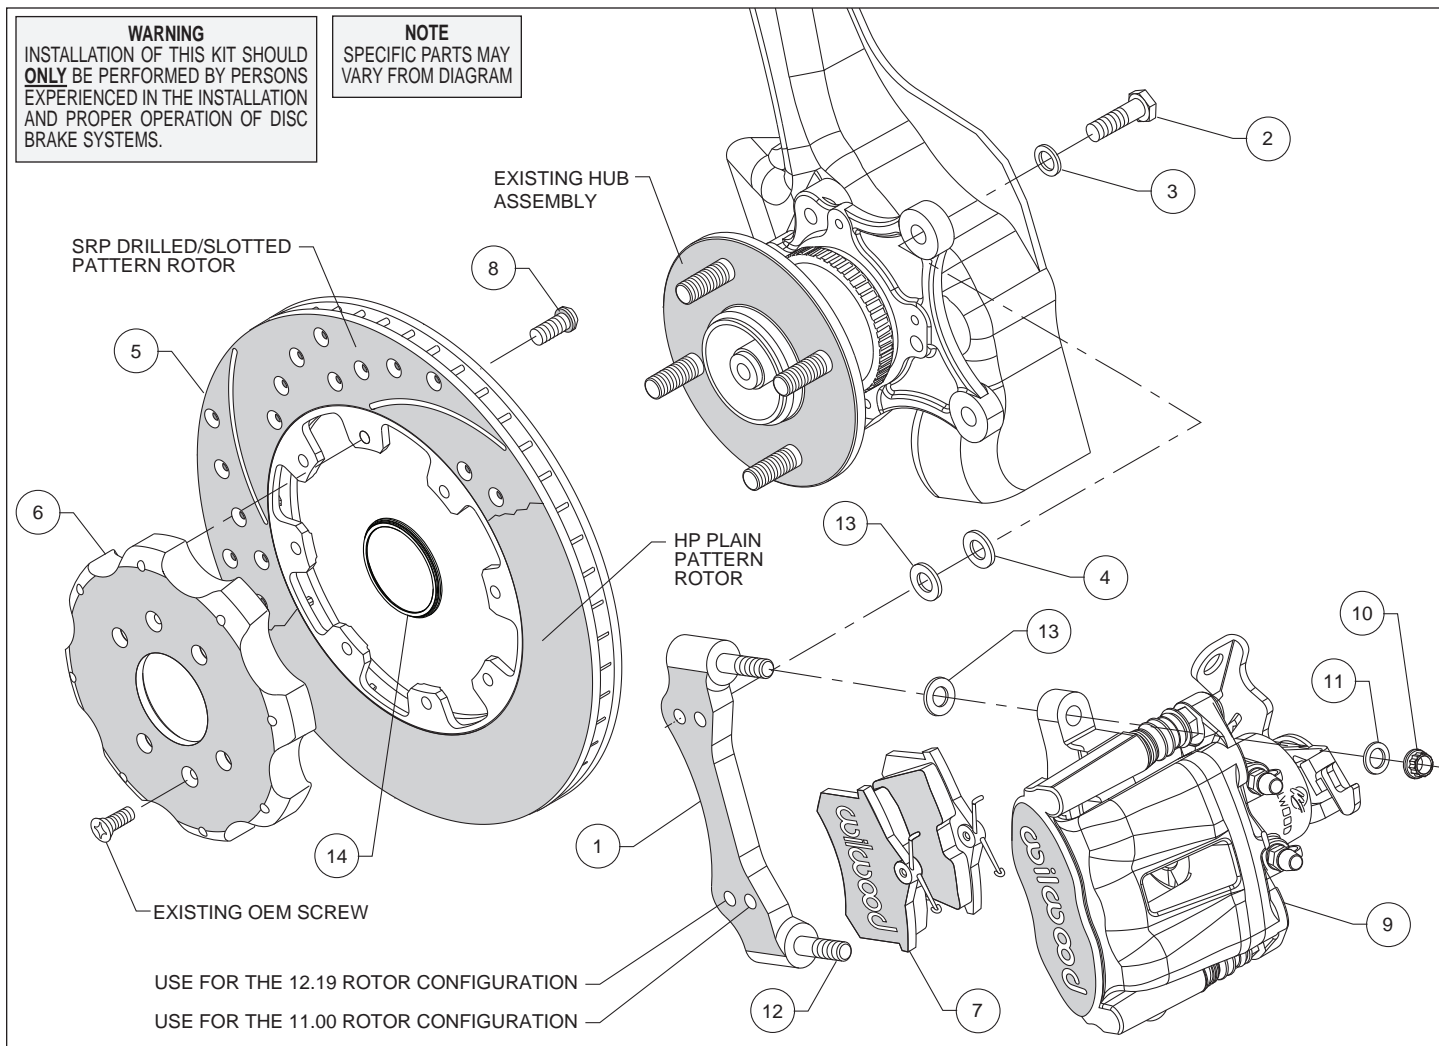

Figure 1. Typical Installation Configuration
- The caliper mounting bracket (1) should initially be installed with clean, dry threads on the mounting bolts. Orient the bracket as shown in Figure 1, and install using bolts (2) and washers (3). Initially place two .035" thick shims (13) between the bracket and upright, Figure 1 and Photo 2. Temporarily tighten the mounting bolts. **NOTE: The bracket must fit squarely against the mount bosses on the upright.** Inspect for interference from casting irregularities, machining ridges, burrs, etc. Later, after the caliper alignment has been checked, the mount bolts will be secured using red *Loctite*® 271.
- Orient the rotor (5) and hat (6) as shown in Figure 1 and Photo 3. Attach the rotor to the hat using bolts (8). Using an alternating sequence, apply red *Loctite*® 271 to the threads, and torque to 25 ft-lbs.
- Slide the rotor registration adapter (14) onto the axle register on the axle hub with the smaller O.D. facing outward, Photo 4.
- Install the brake pads (7) into the caliper (9) from the bottom, with the friction material facing the rotor, until the "v" spring clip snaps into place against the anvil, as shown in Figure 1 and Photo 5. They should install easily without interference.
- Lubricate the caliper mounting studs (12) with lightweight oil. Initially place two .035" thick shims (13) on each stud as shown in Figure 1. Mount the caliper (9) onto the bracket (1) using lock nuts (10) and washers (11), Figure 1 and Photo 6. Temporarily tighten the lock nuts and view the rotor from the end of the caliper. The rotor should be centered in the caliper, Photo 7. If not, adjust by adding or subtracting shims (4 and/or 13) between the bracket and the upright. Always use the same amount of shims on each of the two mounting bolts. Once the caliper alignment is correct, remove the bracket mounting bolts (2) one at a time, apply red *Loctite*® 271 to the threads, and torque to 35 ft-lb.